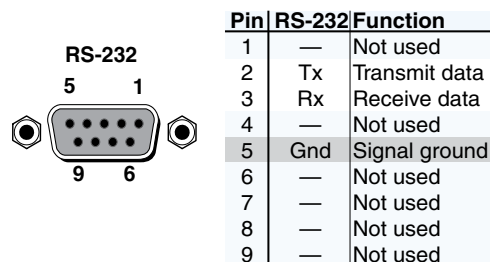

Figure 5. RS-232 Connector Pinout
- ⑥ **RS-232 port** — Connect a computer or control system to this 9-pin D connector to allow remote control using the SIS commands (see figure 5 and the **Programming Guide** section).